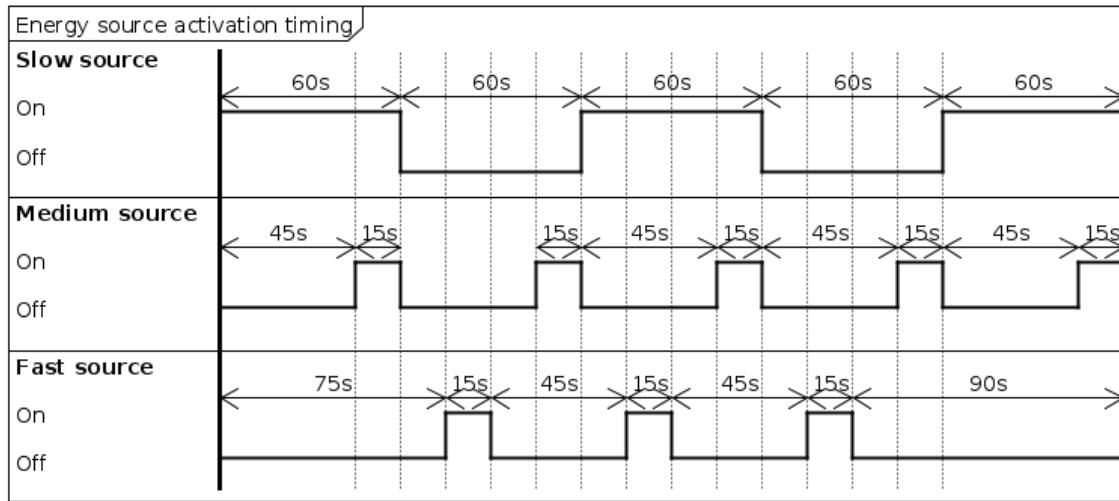

Figure 5. Activation of energy sources.
During the competition, the energy sources are activated and deactivated successively as in figure 5:
- Triggers the charging station (On/Off according to the figure 5)